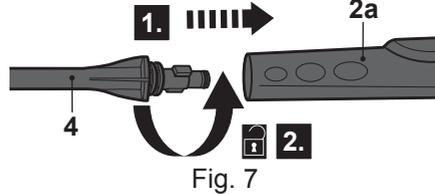

Fig. 7
- > To remove the pressure lance (4), press it towards the lance connection port (2a) of the spray gun (2) and turn it anticlockwise to remove it (Fig. 7).